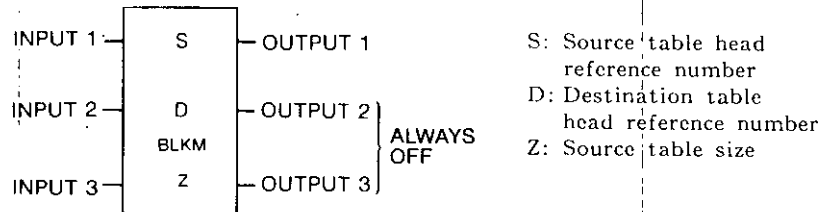

Fig. 5.51 BLKM General Form
- Fig. 5.51 shows the form of block move.